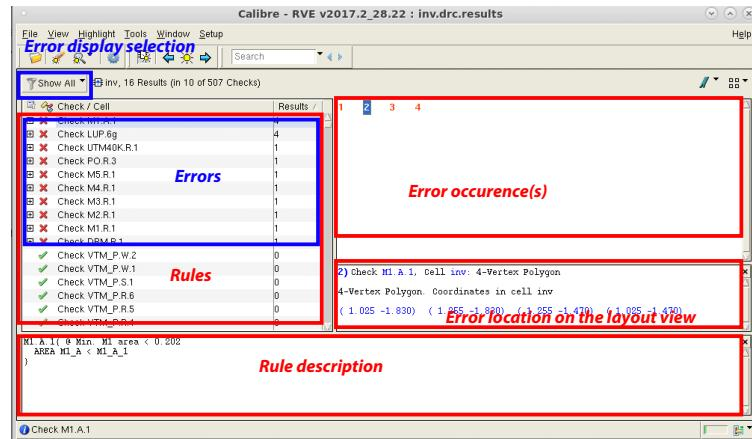

Figure 15: DRC result window
4. Then Click on Run DRC, wait a little bit and the potential DRC errors will be displayed. As shown in Fig. 15, a new window should appear. On the left pane are listed all the different rules. You can click on *Results* to order them. If some rules have a red cross in front of them, it means your design does not respect some of the foundry rules (the goal is then to only have green symbol in front of every rules, otherwise, the foundry will not
be able to manufacture your design). The rule description tells you what the rule require to be enforced. In this example, it says that the minimum metal 1 area should be at least $0.202\mu m^2$. The error occurrence tells you how many occurrence of the same error you have in your design. The other pane tells you where the error is located. If you want to directly locate the error on your layout view, you can double click on the error number in the error occurrence pane (1 2 3 4 in Fig. 15). Once this error is corrected, you can go back to the DRC results window, select another error, locate it and so on and so forth.